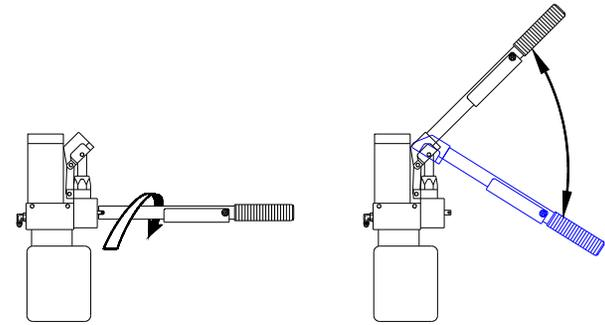

FIGURE 2-12: CLOCKWISE CLOSES RELEASE VALVE
- 1) Refer to **Figure 2-12**. Engage pump release valve with pump handle. Note that the notches in handle must engage the pin on the stem of the release valve. Turn valve lightly clockwise to verify that valve is closed (valve should have been closed previously). Remove handle.
- 3) Refer back to **Figure 2-12**. Insert handle into backup pump socket, then pump handle to raise platform to floor height.